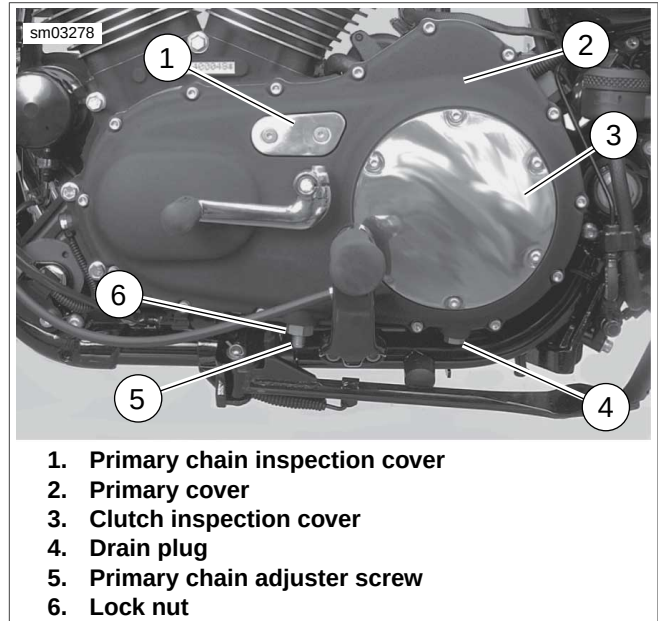

Figure 1-42. Primary Cover: All Models (XL Model Shown)
See Figure 1-42. Check the primary chain for correct tension by measuring its vertical free play through the primary chain inspection cover (1) opening located near the top of the primary cover (2).
See Figure 1-42. The primary chain can be adjusted without removing the primary cover (2). Proceed as follows:
2. Remove two hex socket screws securing primary chain inspection cover (1).
5. See Figure 1-42. When tension is set correctly, hold chain adjusting screw with allen wrench and tighten lock nut (6) to 20-25 ft-lbs (27.1-33.9 Nm).
6. Install primary chain inspection cover (1) and **new** gasket. Tighten hex socket screws to 84-120 **in-lbs** (9.5-13.6 Nm).